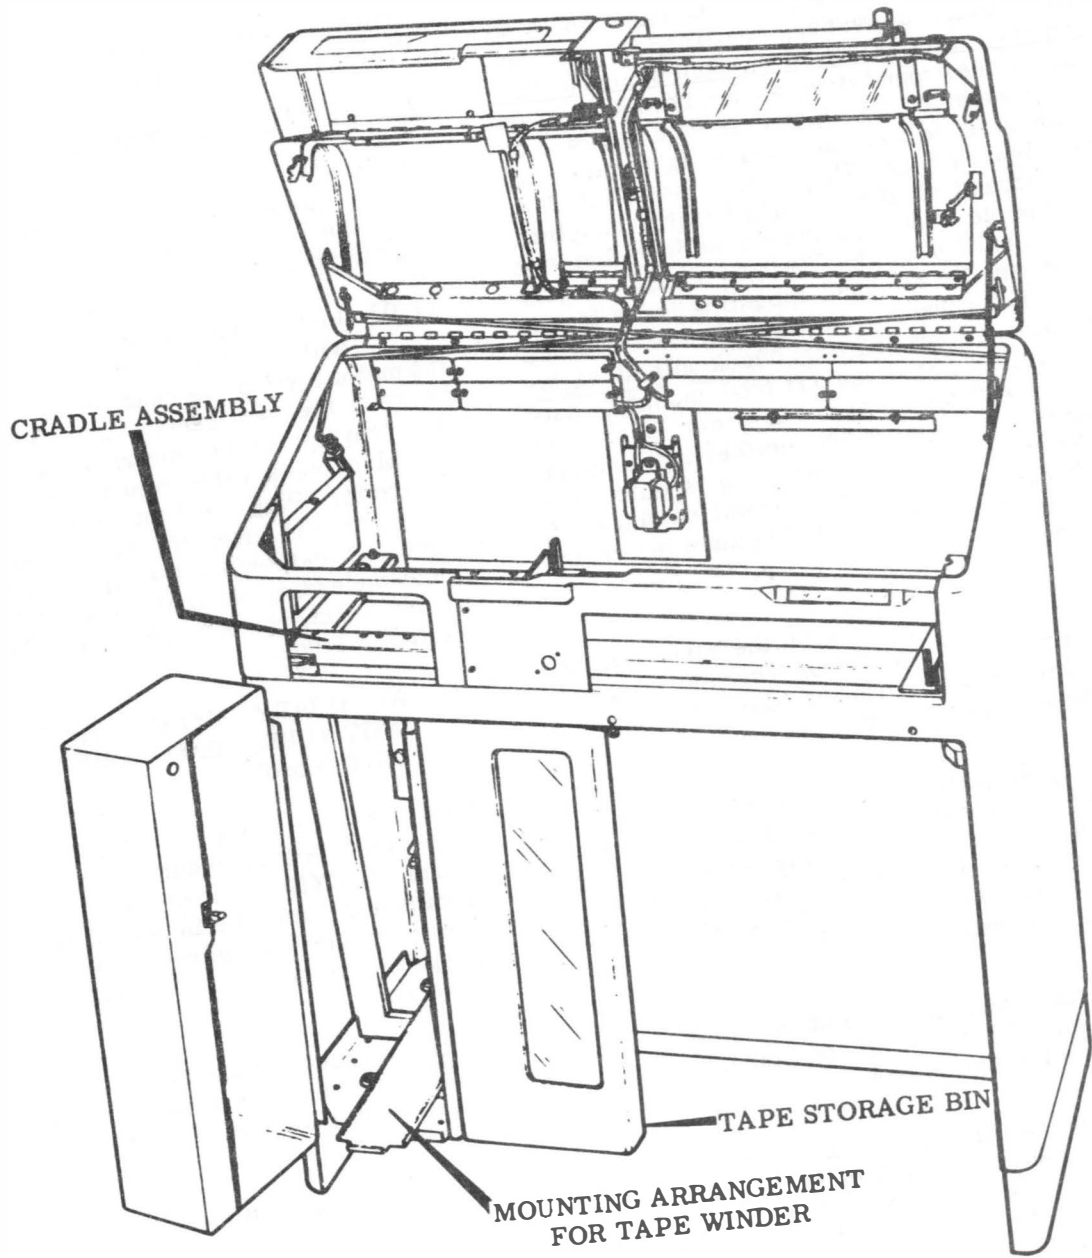

Figure 9 - Typical Automatic Send-Receive Cabinet (LAAC) Shown Open
11.02 Installation of tape winders in cabinets with provisions at lower left side: With the motor toward the rear, place the tape winder between the two flanges and slide it back until the front part of the tape winder baseplate drops into place behind the front retaining flange (see Figure 9). Plug cord into receptacle provided in the cabinet after the tape winder is fully in place, or just before the tape winder is fully in place depending on applicable cabinet and tape winder. Reverse the procedure when removing the tape winder.
(a) The cradle in the cabinet is factory adjusted (no load) for nominal squareness and parallelism with respect to the cabinet. Two locating eccentrics are positioned against the rear rail. The cradle may have to be repositioned after the units are installed in order to level the equipment and obtain a flush fit with respect to the cabinet (see Figure 9). Exercise care to avoid damage to the counter.